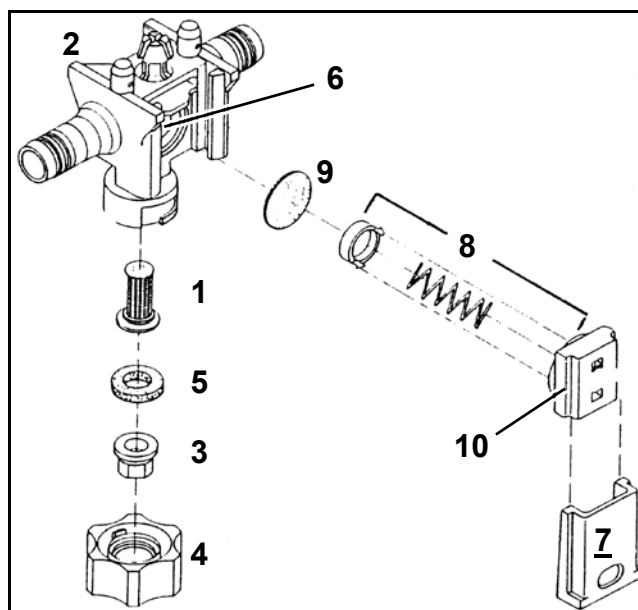

Fig. 140
- The nozzle filter (Fig. 140/1) is placed from below into the nozzle carrier (Fig. 140/2).
- Place the nozzle (Fig. 140/3) inside the bayonet cap (Fig. 140/4).
- Place the rubber seal ring (Fig. 140/5) above the nozzle.
Cause for dripping of the nozzles at a shut off boom feed is residue on the diaphragm seating (Fig. 140/6). Therefore the corresponding diaphragm should be cleaned as follows:
- Pull out the slide (Fig. 140/7) from the nozzle carrier (Fig. 140/2) in direction of the bayonet cap.
- Remove the spring element (Fig. 140/8) and the diaphragm (Fig. 140/9).
- Clean the diaphragm seating (Fig. 140/6).
== **Pay attention to the correct fitting directions of the spring elements. The edges on the spring element housing (Fig. 140/10) are offset on the right and left hand side and should rise in direction of the boom profile when fitting.**